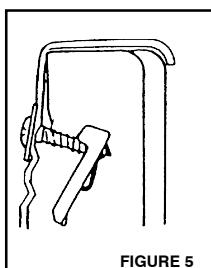

FIGURE 5
- IMPORTANT:** The "Liner-Lok™" must be in a loose downward-hanging position at this time. (see FIGURE 5)